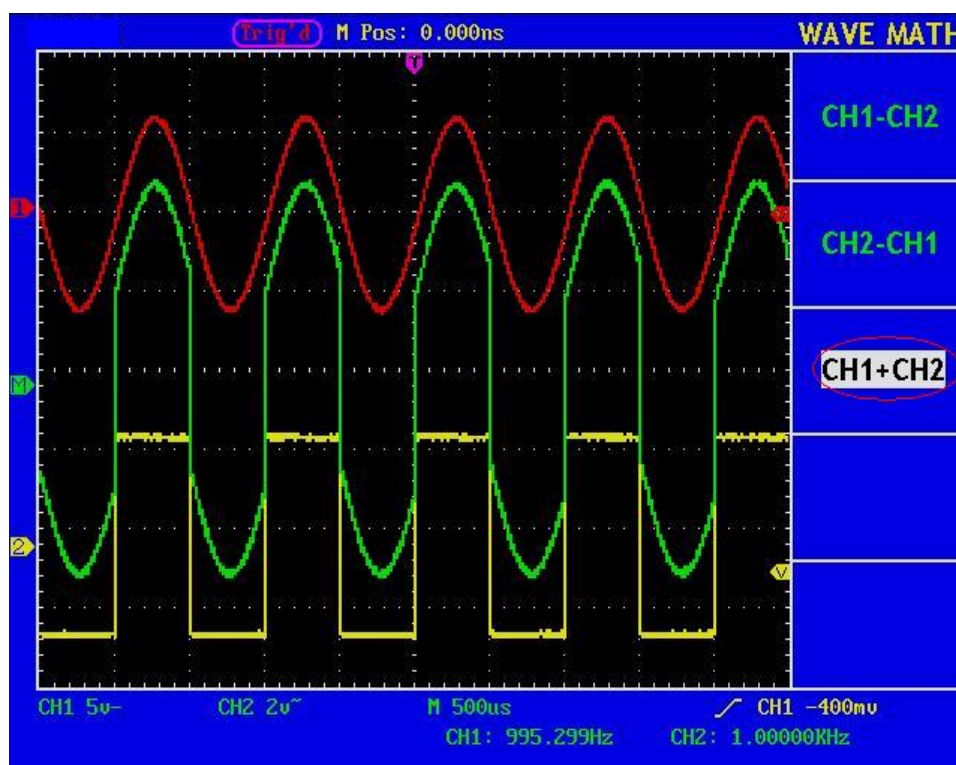

Fig. 26 Wave Form result from CH1 +CH2 Mathematical Manipulation
2. Press the **F3** menu selection button and choose **CH1+CH2**. The green calculated wave form M is displayed in the screen; press the **F3** menu selection button again, the wave form M is closed off (see Fig. 26).